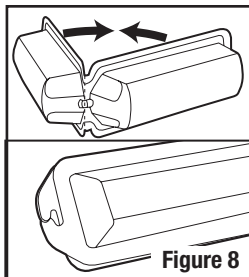

Figure 8
- a. To install, remove tape on top of bait that states “Remove Before Use”, bend cartridge in half, fold over and secure both ends together by interlocking the two small tabs found at either end (**Figure 8**).